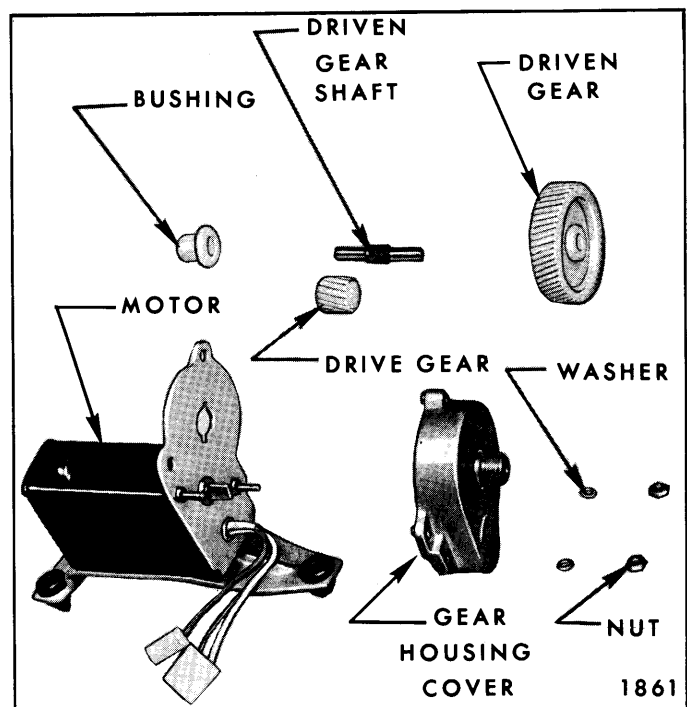

Fig. 13-72—Folding Top Lift Disassembled
4. Disassemble folding top lift assembly as shown in Figure 13-72.